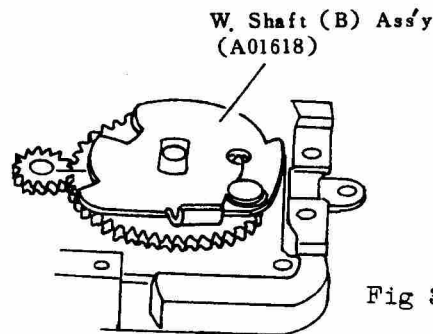

Fig 32
- e) Insert the W. Shaft (B) Ass'y (A01618) in the position as shown in (Fig 32).